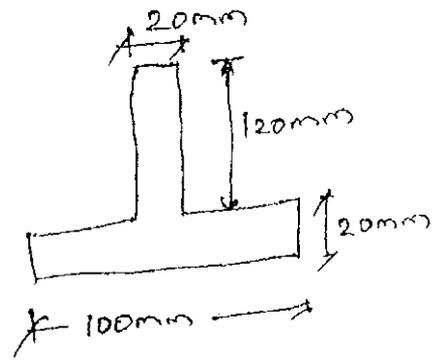

FIG. 4
24 (b) The cross section of the beam is a T-section having total depth of 140mm, thickness of flange and thickness of web each equal to 20mm as shown in fig.4 (refer page 4 of 4). The beam has an effective span of 4m and carries a total uniformly distributed load of 20kN over the whole span and a concentrated load of 30kN at its centre. Find the maximum intensity of shear stress and draw the shear stress distribution diagram. (16)